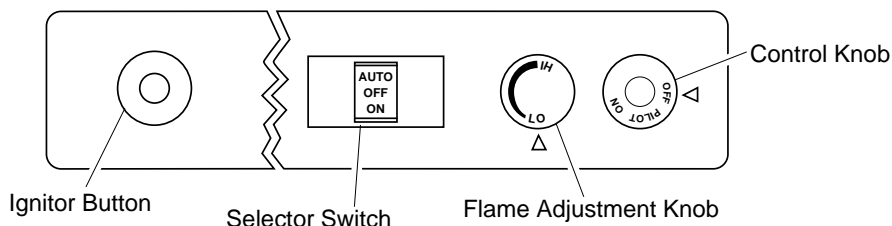

Figure 20 - Control Knob and Ignitor Button Location (Shown as Supplied, No Control Options)
5. Wait five (5) minutes to clear out any gas. Then smell for gas, including near the floor. If you smell gas, **STOP!** Follow "B" in the safety information, column 1. If you don't smell gas, go to the next step.
6. Press in and turn control knob counterclockwise  to the PILOT position. Press in control knob for five (5) seconds (see Figure 20).